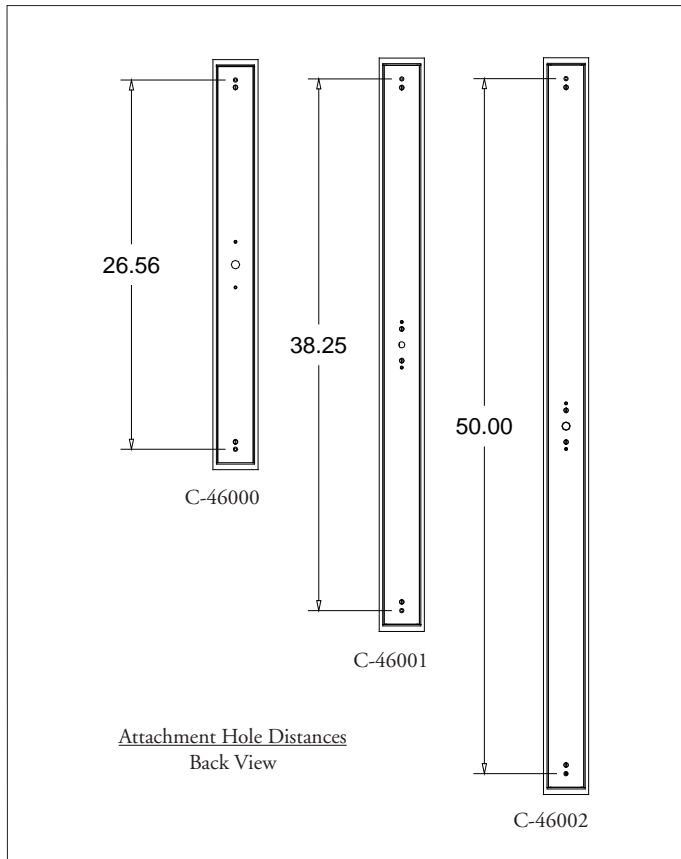

Figure 9
Step 2 Install wood blocking in areas where fixture will attach inside wall. See chart for required distance between mounting holes. (Fig 9) Blocking should be no less than 3" from face of sheetrock to ensure front face of housing does not extend beyond the sheetrock face. (Fig 10)